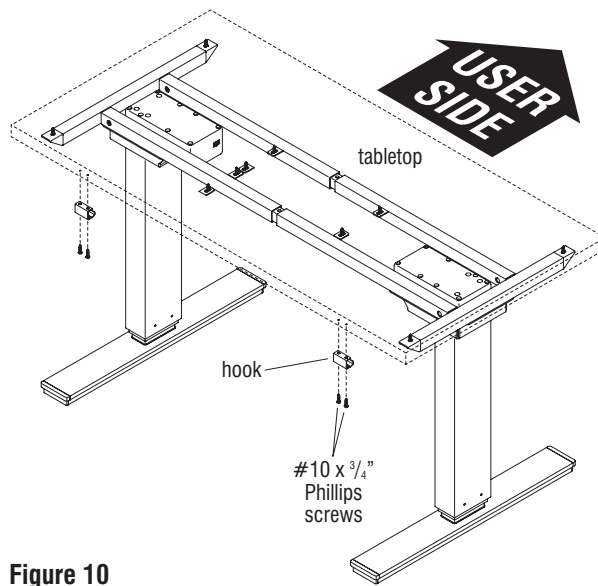

Figure 10
1. Carefully turn table to the upright position (Figure 10).
2. Position one hook underneath the back, non-user side of the tabletop at the pre-drilled location as illustrated in Figure 10 & Detail F. Orient the hook to face the user side of the table. Align the mounting holes of the hook with the pre-drilled holes underneath the tabletop and secure using two #10 x 3/4" Phillips screws. Repeat this process to secure the remaining hooks to the table (Figure 10 & Detail F).